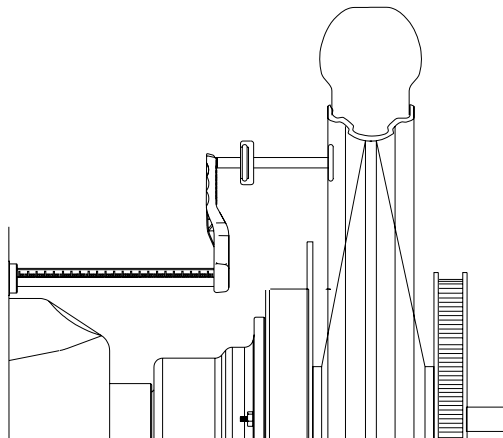

Figure 13
7. Use SAPE to enter the distance value. Or enter the values manually using the distance gauge scale and by rotating the shaft to enter the desired value. **NOTE:** The display value matches the value read on the gauge rod, however, the actual value entered adds 100 mm to the calculation. See Figure 13.